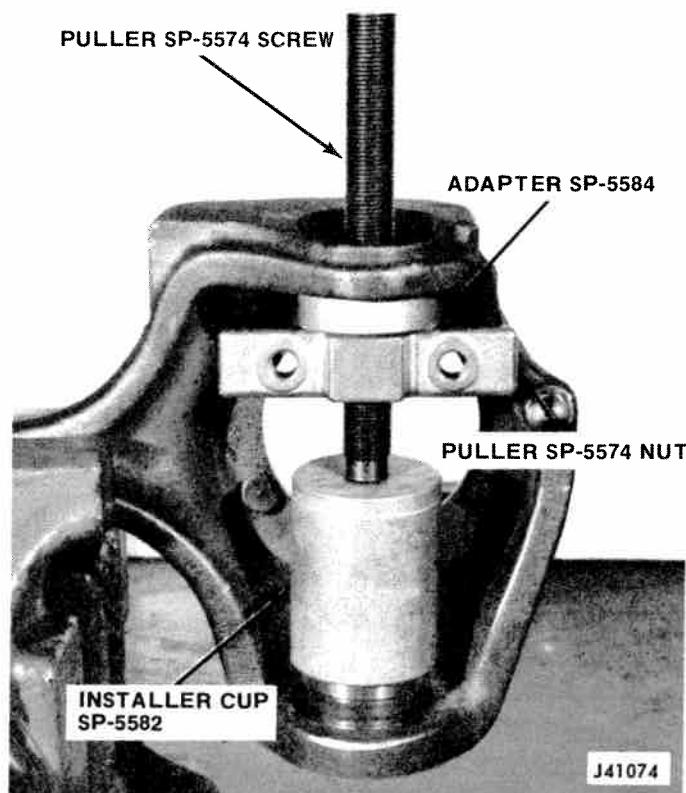

Fig. 10-8 Lower Ball Joint Installation
(5) Invert the knuckle in the vise. Position the lower ball joint in the knuckle. Use Installer Cup SP-5582, Adapter SP-5584, and Puller SP-5574 screw and nut (fig. 10-8) to press in the lower joint. Install ball joint snap ring.